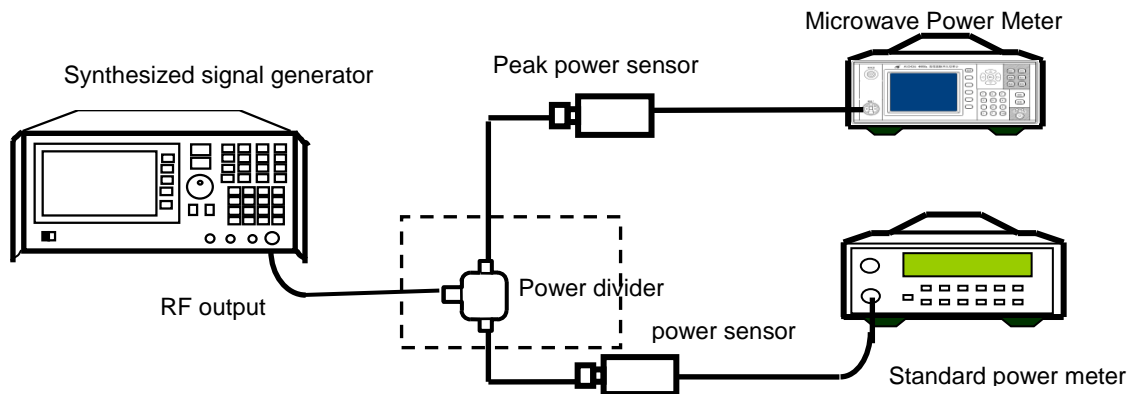

Fig. 8.7 Test of Pulse Power Range of Peak Power Sensor
- 1) Power on the instrument, warm it up for at least 30 min, calibrate the microwave power meter connected to a 81702X or 81703X peak power sensor and the standard power meter respectively, and then connect the device as shown in Fig. 8.7.
As shown in Fig. 8.7.
- 1) Power on the instrument, warm it up for at least 30 min, calibrate the microwave power meter connected to a 81702D peak power sensor and the standard power meter respectively, and then connect the device as shown in Fig. 8.7.